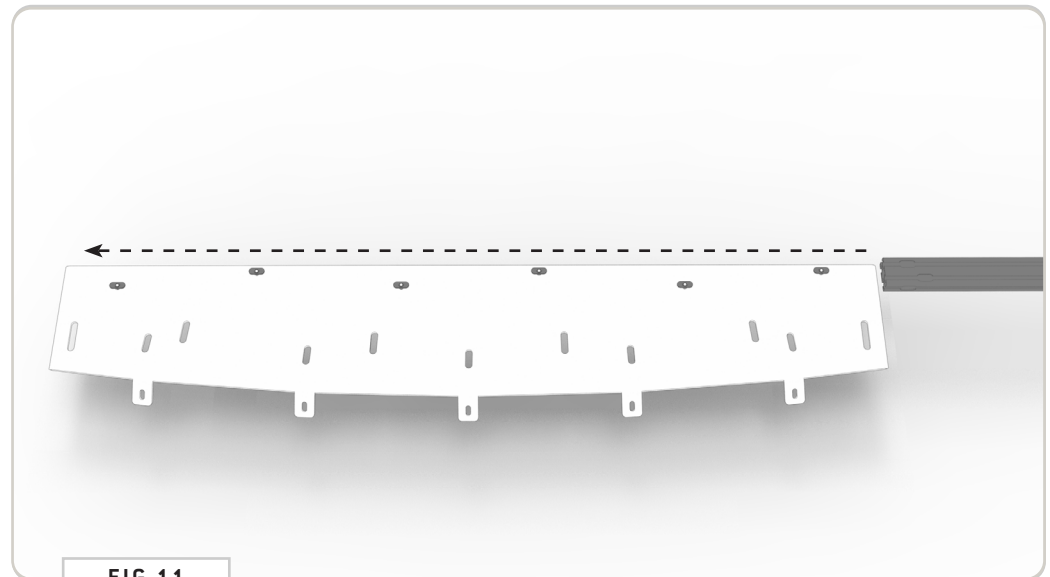

FIG 11
4.2 Crossbar Install: Now, slide the **Crossbar** onto the **Crossbar Fairing Bracket**. You'll have to straighten each **T-Nut** as you go to get it to feed into the crossbar correctly (FIG 11).